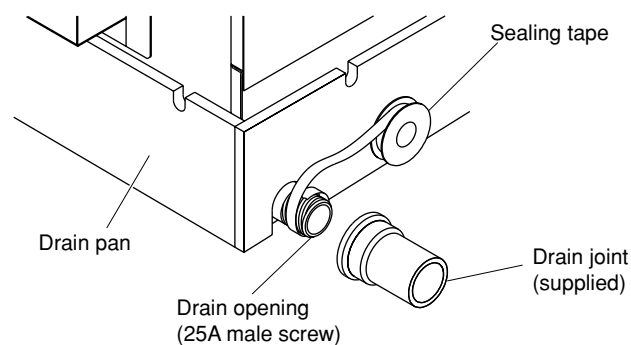
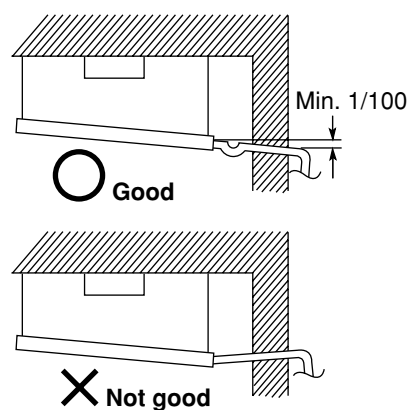

Fig. 3-120a
Fig. 3-120b
- (2) If connecting a drain joint (supplied) to the threaded drain port, first wrap the drain port threads with sealing tape, then connect the joint. (Fig. 3-120a)
- (3) After connecting the drain pipe securely, wrap insulator (field supply) around the pipe.
- (4) Ensure the drain pipe has a downward gradient (1/100 or more) and prepare traps as indicated in Fig. 3-120b.